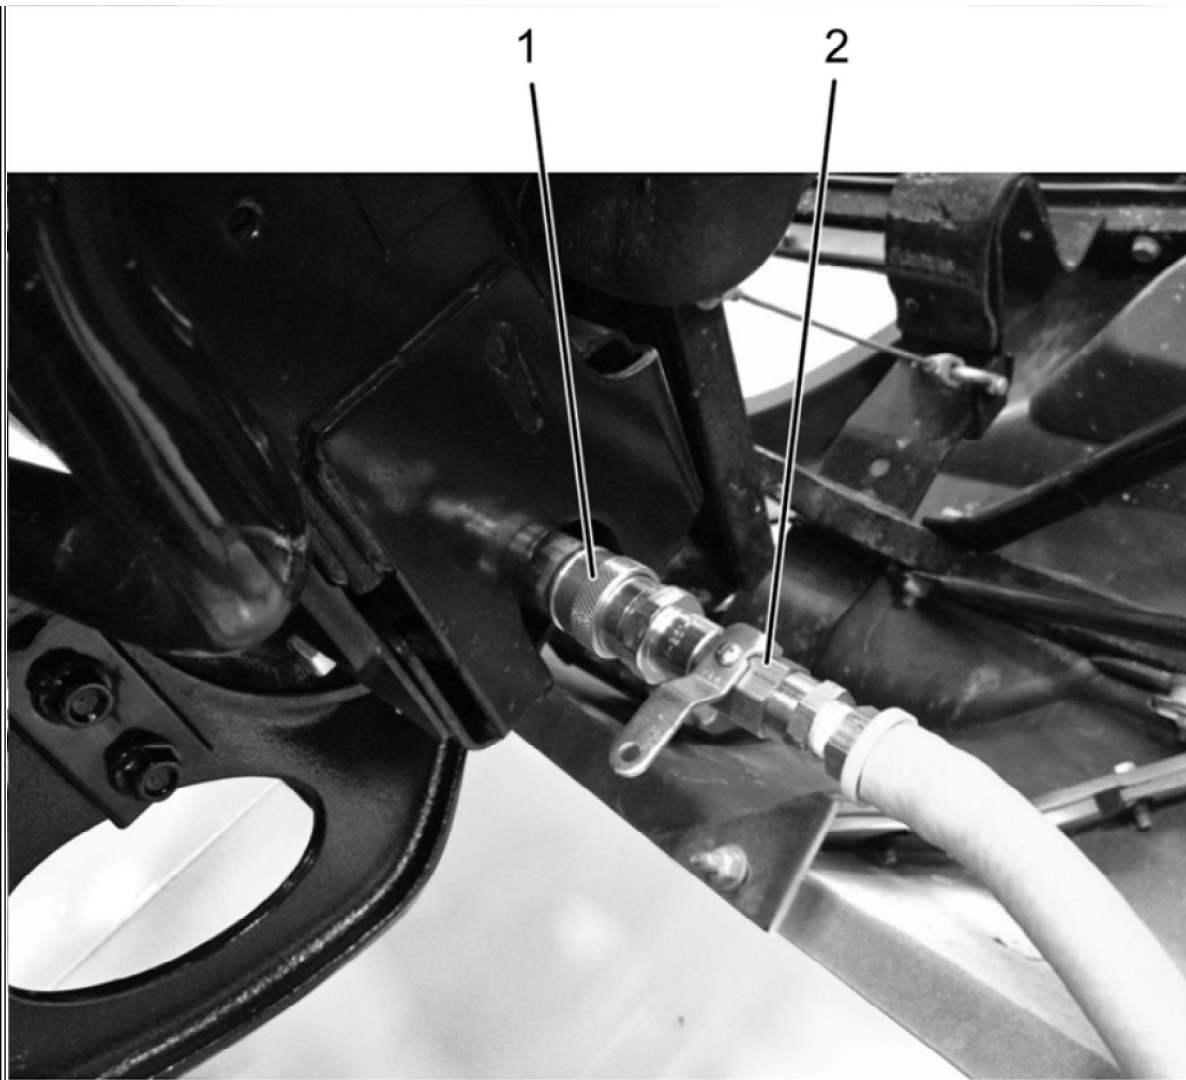
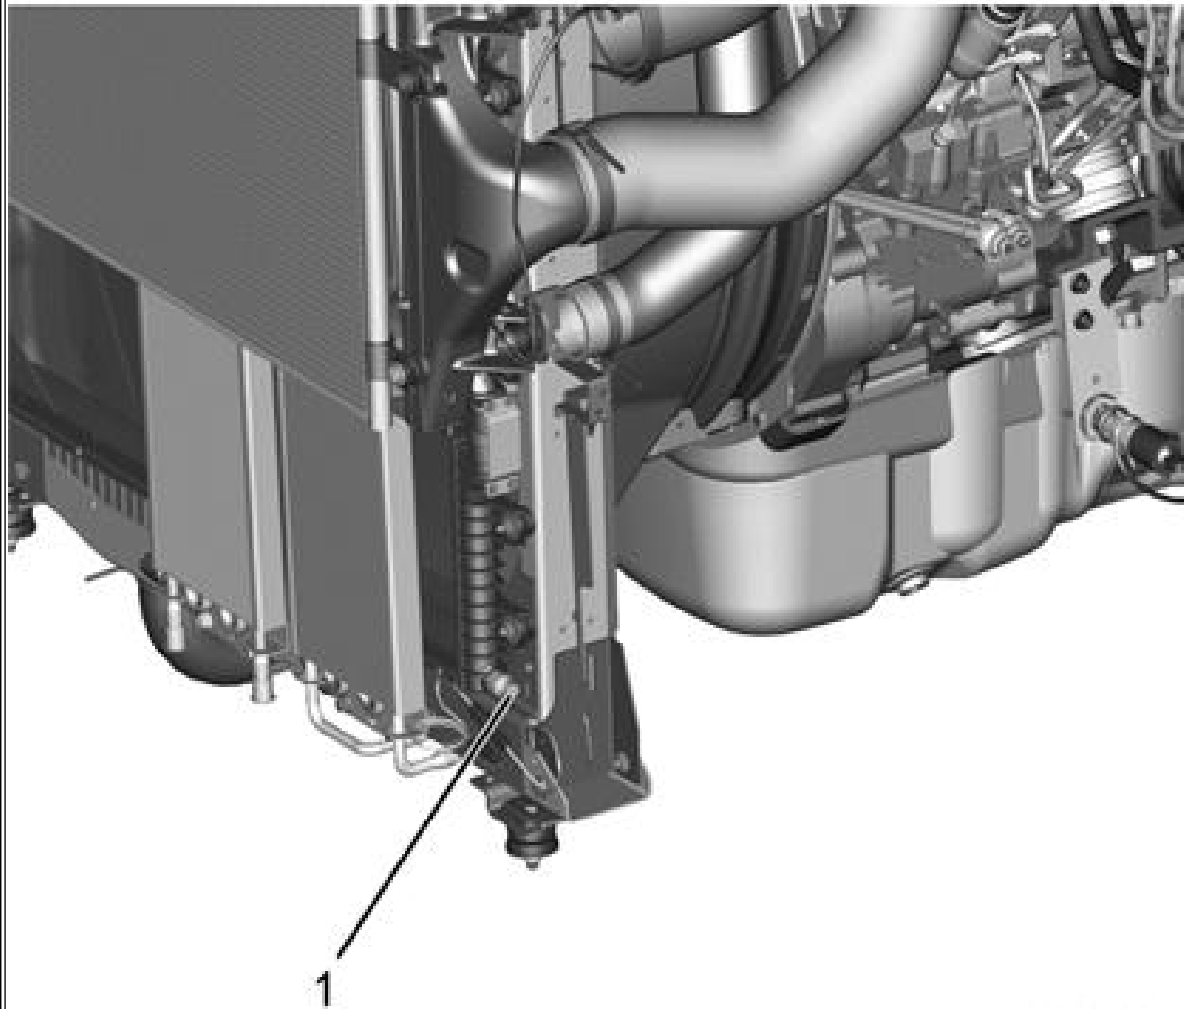

Figure 2: Radiator Discharge Hose
Figure 3: Low-Temperature Radiator (LTR) Drain Coupler
2. Connect radiator discharge hose (**Figure 2**, Item 2) onto radiator drain coupler (**Figure 2**, Item 1)
3. Pressurize cooling system with shop air and drain contaminated fluid from discharge hose (**Figure 2**, Item 2). If viscosity of contaminated fluid is too thick, drain from lower radiator hose.
4. Connect radiator discharge hose (**Figure 2**, Item 2) onto low-temperature radiator (LTR) drain coupler (**Figure 3**, Item 1)
13. Drain radiator and LTR (Low temperature radiator) using the discharge hose (**Figure 2**, Item 2)